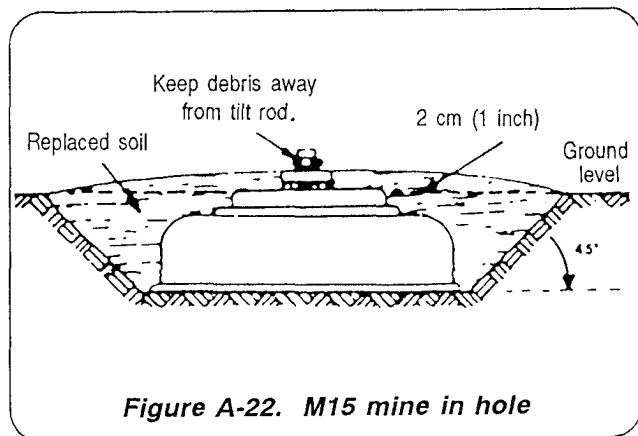

Figure A-22. M15 mine in hole
- b. Cover the mine with 1 inch of soil (Figure A-22).